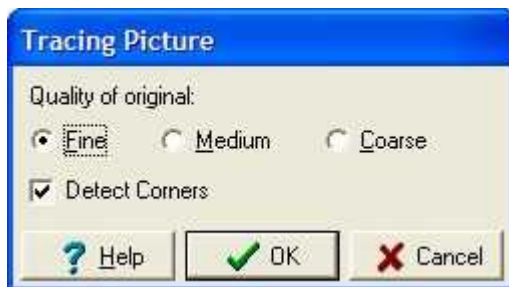

Figure 2
- 5 The Bitmap will now have been placed in your Workspace, you will now be asked if you wish to "Trace" it see Figure 2, Check Fine and Detect Corners and Click On "OK". If you want to be able to engrave your Bitmap you will need to Trace it, in order to create a vector outline.